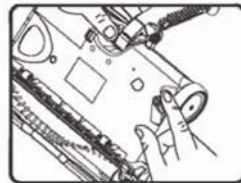

Fig. 16
3. Push in on the locking tab of the belt access panel and lift off to remove. (Fig. 16)